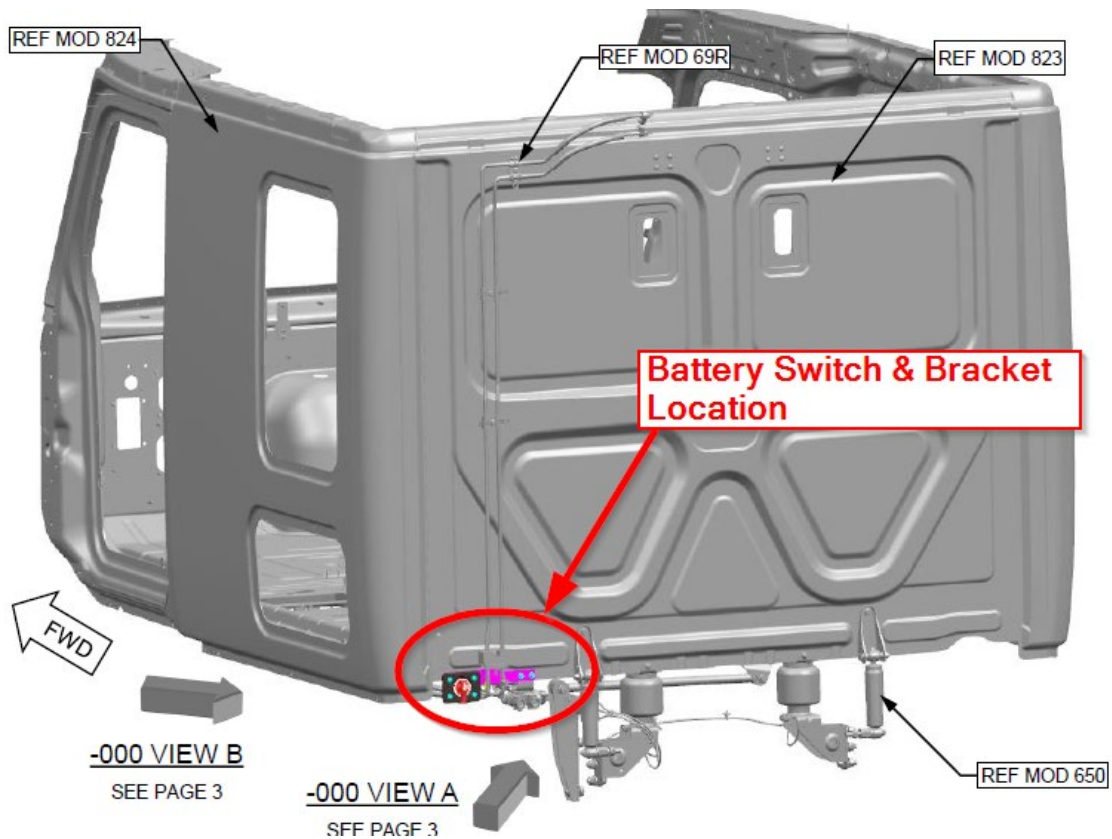

Fig. 19, Bracket and Battery Switch Location at Back of Cab
10. Install the switch bracket on the back of cab as shown in **Fig. 19** using the two hex screws and nuts.